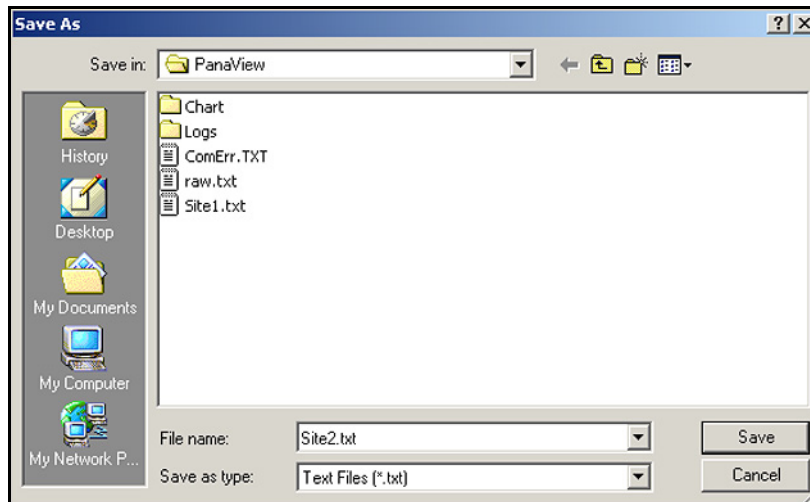

Figure 30: Save As Screen
To save the raw signal, click *Save* to open a screen similar to *Figure 30* below. Enter the desired name, and click *Save* to save the signal as a text file.
2. Click *Save Site to PC* to open a screen similar to *Figure 30 on page 104*.